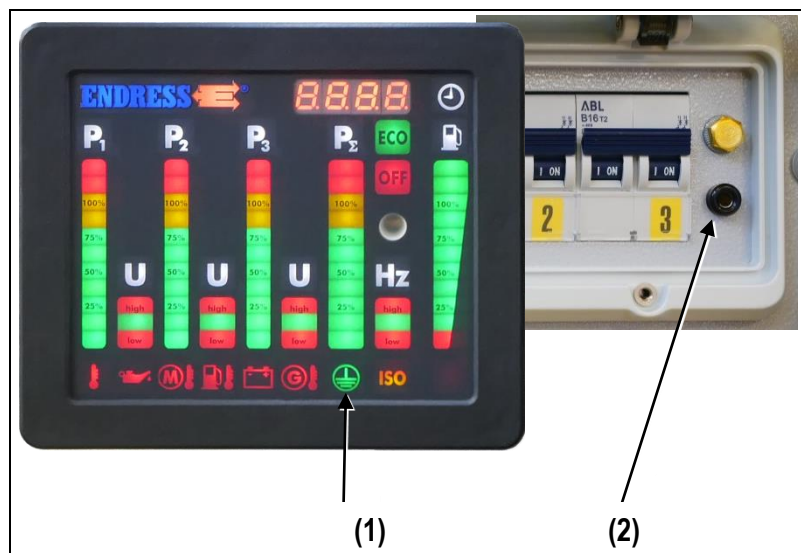

Fig. 4-5: Check the protective conductor
1. Insert test cable into socket (Fig. 4-5-(2)).
The test lamp (Fig. 4-5-(1)) on the multifunction display shows the result:
All LEDs light up for about 2 seconds to allow checking as soon as the START-STOP switch is set to the position “Operate”. The normal operational lighting is then shown afterwards for about 30 seconds. If the engine is not started within this period, the E-MCS 4.0 goes into energy saving mode and the indicator goes dark. To bring the E-MCS 4.0 back into a ready-to-operate condition again, the START-STOP switch must first be turned into the position “STOP”. The display intensity is dependent on the ambient brightness (sensor see Fig. 4-5-(5)).